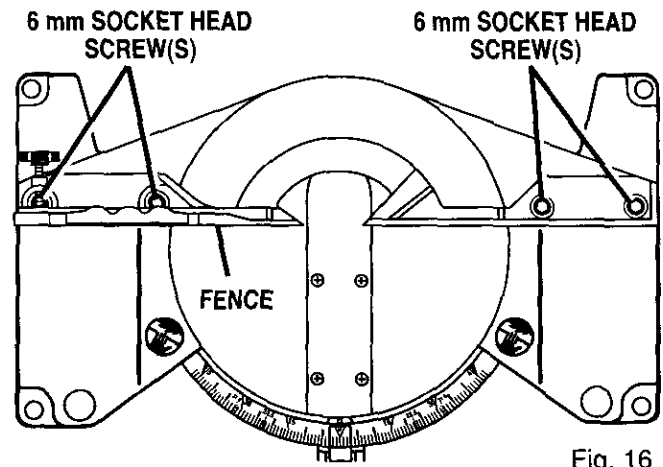

Fig. 16
- Using a 6 mm key, loosen the socket head screws securing the fence. See Figure 16. Pivot the fence until the framing square and zero clearance throat plate are perpendicular.